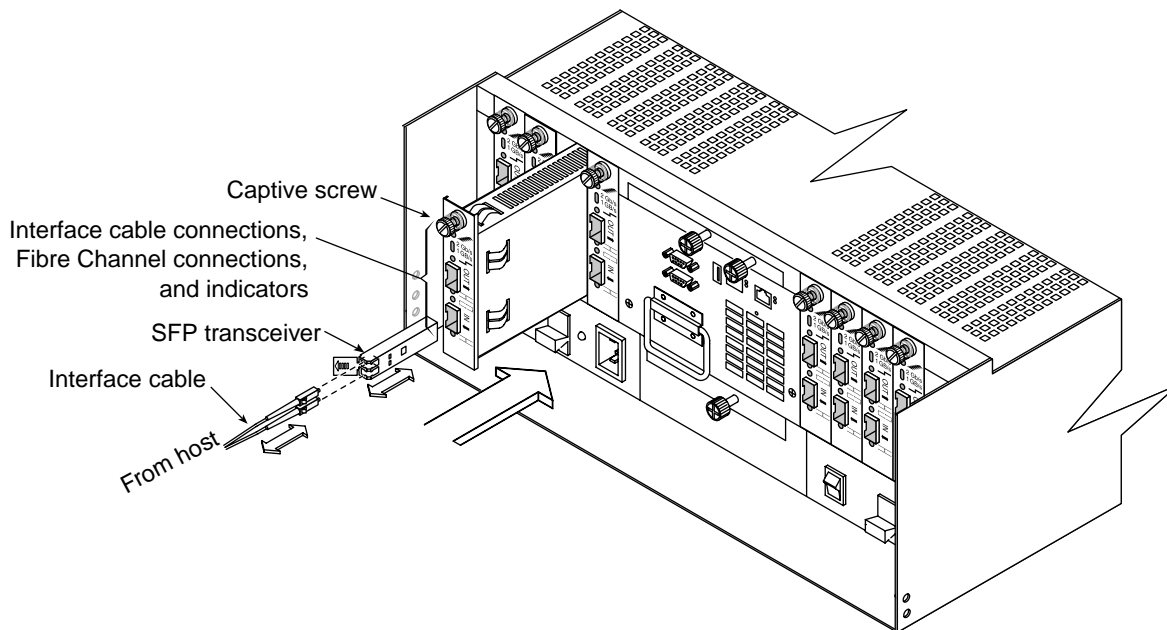

Figure 4-13 Removing and Installing an SFP Transceiver
3. Remove the interface cables from the failed SFP transceiver (see Figure 4-13).
4. Remove the failed SFP transceiver from its minihub slot (see Figure 4-13).
4. Remove the interface cables from the Fibre Channel connections on the failed minihub (see Figure 4-13).
5. Remove each SFP transceiver from the minihub slot (see Figure 4-13).